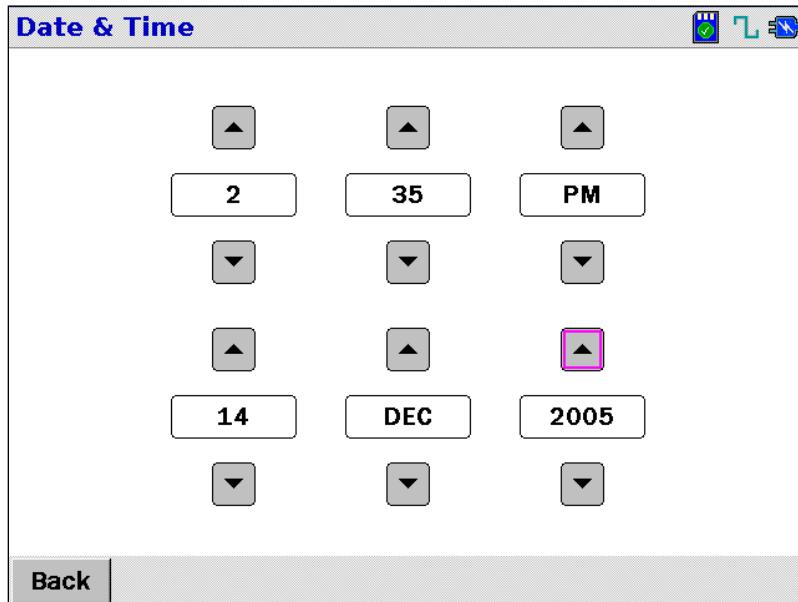

FIGURE 27 - DATE AND TIME SCREEN
2. Touch the ▼ or ▲ icons above or below the field of interest (e.g. Dec. in Figure 27) to scroll to the desired value. The range for the *Year* field is 2005 to 2025.